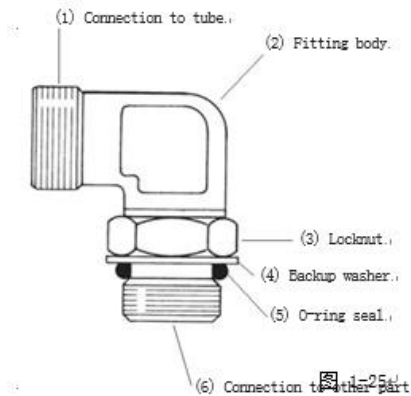

Figure 1-25
1. Place the lock nut (3), support washer (4) and o-ring seal (5) as far away from the fitting body (2) as possible.
2. Tie the joints to the part it is using until the support washer (4) just touches the surface of the part.
3. Place the joint assembly in the correct position, and turn the joint body (2) outward to 359 °(counter-clockwise).
4. Tighten the locking nut (3) to the torque as shown in the correct diagram for the used fitting.
5. If the end shape of the fitting body is the same as shown in figure 1-25 (elbow or straight), please place the sleeve over the tube before connecting the tube to the end.